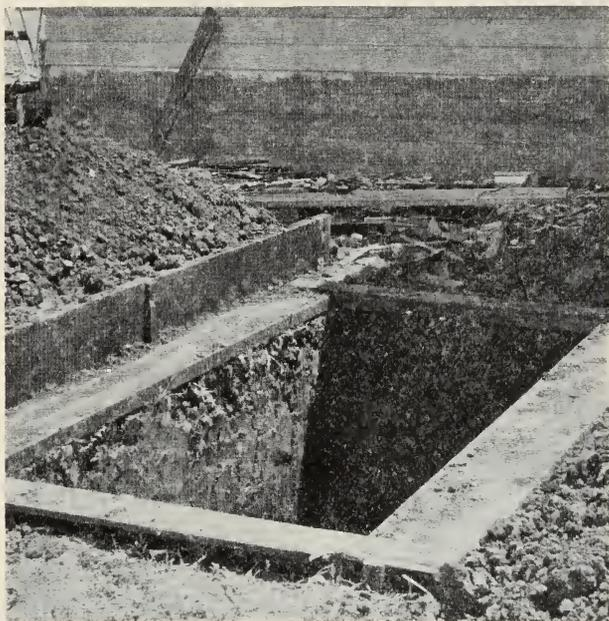

Fig. 4.—The 2 × 10 inch planks laid about the hole are later used as baffle boards.
*Preparing for Excavation.*—Select the tank location. Lay two planks 3 feet 8 inches apart (fig. 4). Level and hold them in a flat position
against stakes driven into the ground. Across the planks nail two 1 × 6 inch boards to form a rectangular frame with inside dimensions 7 feet 8 inches by 3 feet 8 inches (fig. 4). This frame about the top of the hole prevents the crumbling of the earth on the freshly poured concrete during construction, and provides a working edge from which a plumb bob may be suspended to aid in digging perpendicular walls. If the earth is such that it might cave in, the hole must be made larger to accommodate an outside form. Under ordinary conditions the hole is excavated to a depth of from 4 feet 7 inches to 5 feet below the bottom of the frame. This places the tank 0 to 5 inches, and the top of the outlet pipe 12 to 16 inches, below the surface. Local conditions, however, determine the depth of the tank.